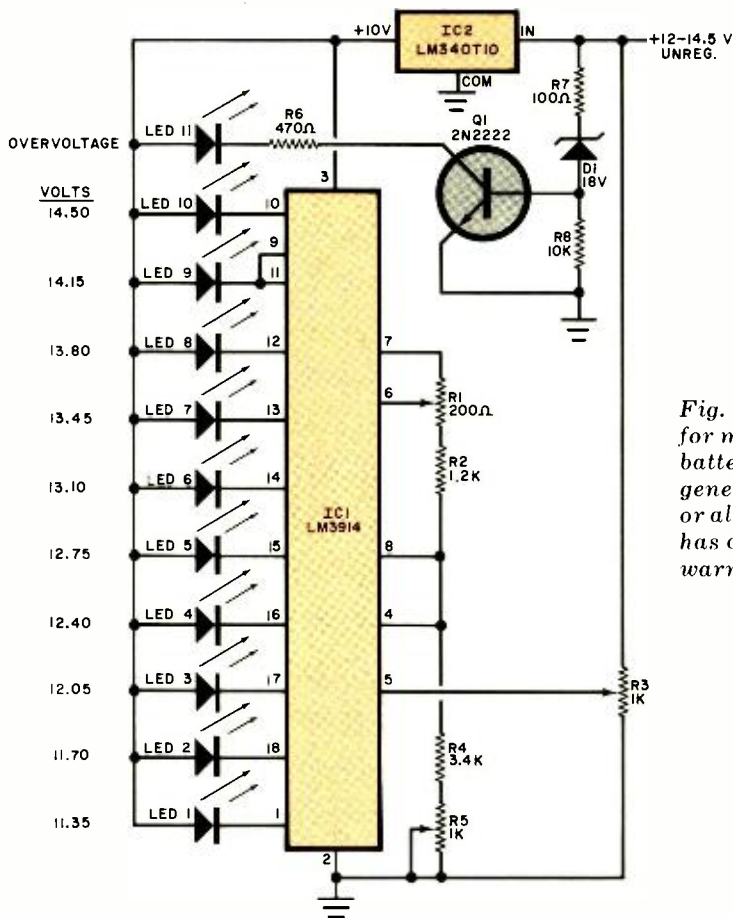
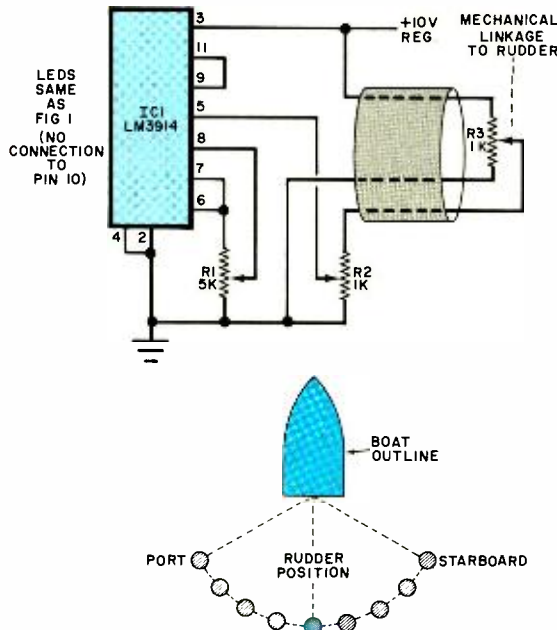

Fig. 1. Circuit for monitoring battery, generator or alternator has overvoltage warning feature.
Fig. 8. Rudder/stern drive position indicator uses same LED readout as Fig. 1. LEDs are mounted in arc to indicate position.
Voltage Monitor. The circuit shown in Fig. 1 employs 11 LEDs to display battery and alternator/generator charging voltage. The display indicates battery failure, operating status of the generator/alternator charging system, and bat-
PARTS LIST (Fig. 1)
- R6, R7, R8, D1, LED11, Q1—Same as Fig. 1
PARTS LIST (Fig. 8)
- Misc.—LEDs (see Fig. 1); 10-V regulated dc source; three-conductor waterproof interconnecting cable; etc.
Rudder-Position Indicator. The circuit in Fig. 8 can be a valuable asset to any stern-drive or inboard-engine boat. It allows the person at the wheel to always know the angular position of the rudder or stern drive. The LED display is basically the same as that shown in Fig. 1, except that there is no LED connection to pin 10 of the IC. The LEDs are best arranged in an arc, as shown in Fig. 8. The arc originates at the stern post of the rudder/stern drive that is painted on the enclosure.
After assembling the electronics package, connect everything but pin 5 of the IC. Connect a 12-to-14-volt dc source to the unregulated input (before the regulator IC in Fig. 1) and a 5-volt dc source between pin 5 of the IC and ground, with +5 volts going to pin 5. Carefully adjust *R1* until *LED9* just lights. The brightness of the LED will change slightly as this adjustment is made because *R1* controls LED current. This is why *R1* had to be adjusted before applying power. An incorrect setting could pump more than 30 mA into the LEDs, possibly damaging them. Once *R1* had been calibrated, complete the connection from pin 5 of the IC to *R2* and temporarily connect *R3* into the circuit. Set *R3* to its center position and adjust *R2* until *LED5* comes on. This point represents dead center for the rudder during final installation.